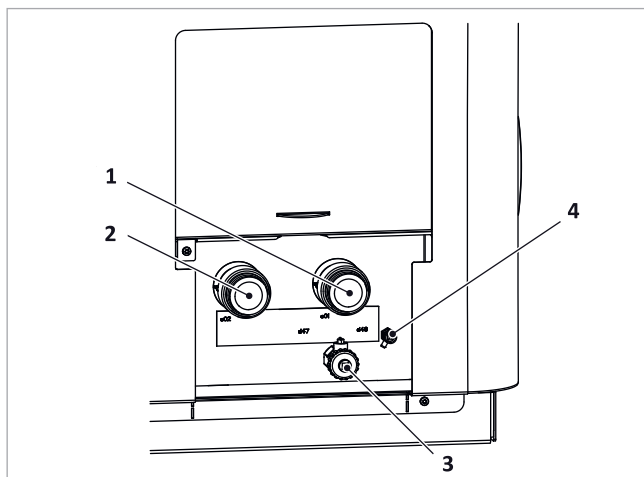

Fig. 18: SolvisLea: Hydraulic connection
2. Remove the gases from the pipe line system on the heating pump by initiating bleeding. See → Fig. 18 (4).